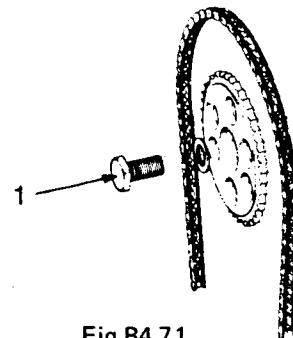

Fig B4.71
- (17) Refer to Fig B4.71. Unscrew the camshaft sprocket retaining screw (1), remove the sprocket and allow the chain to hang over the guides.